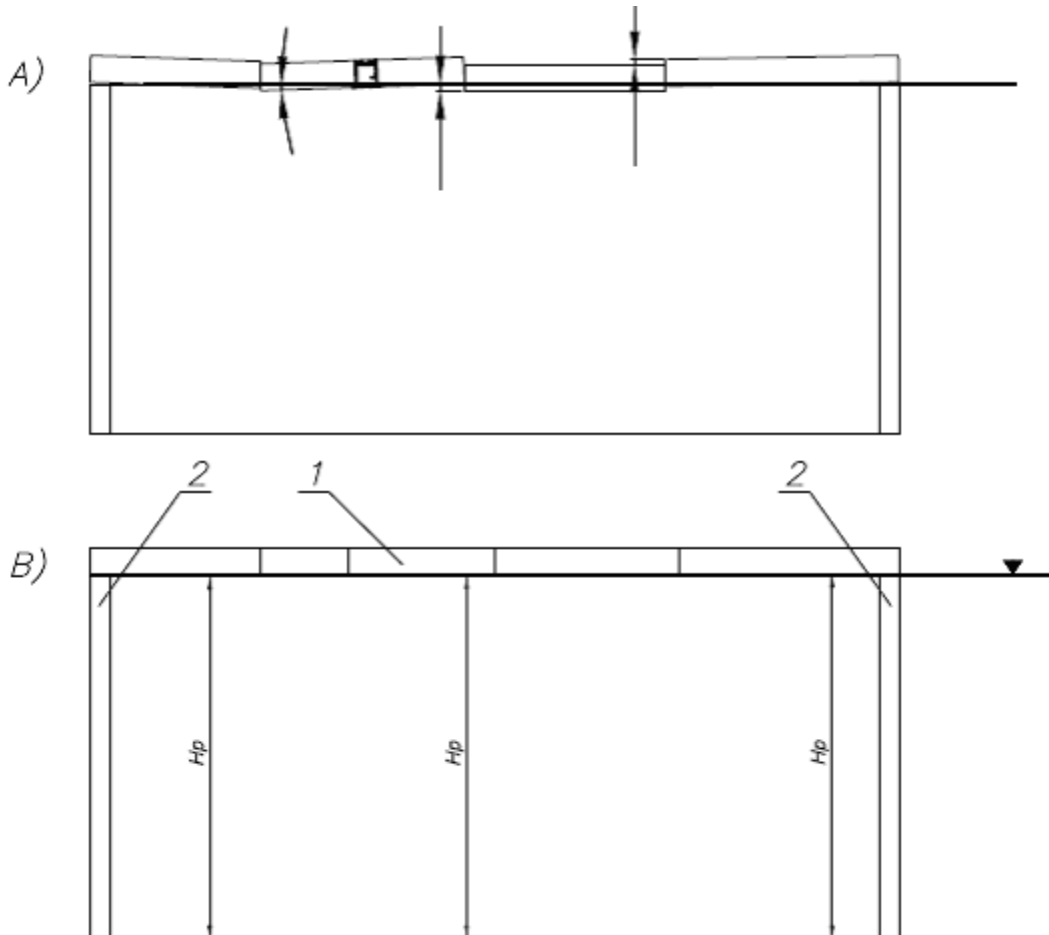

Fig.34. Visualization of track adjustment (before adjustment and after adjustment)
The mounted track must be **leveled accordingly (Fig.34)**. This applies to every **implementation!** Adjustment (leveling) is done by adjusting the suspension on the nuts to keep the track at **the same height adopted during the design of the Hp**. In this way, full functionality of the panels and aesthetics and visual effect are obtained.
5. If the end result is satisfactory (B on Fig.34) **tighten up the top nut (6) to retaining plate (2)**
6. Repeat until all nuts are tightened up (6) in all track suspensions are screwed